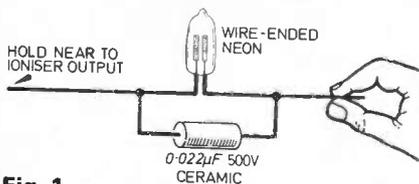

Fig. 1
With his letter he kindly enclosed the circuit of a simple apparatus which would give an indication as to whether the negative ions were flowing, see Fig. 1. This could be mounted on a small piece of wood.
Fig. 1. The circuit diagram of the marine version of the Distress Beacon. The circuit for the pocket version (see Figs. 9, 10 and 11) is identical with the exception of the battery charger section (to the left of B1 and B2) and PCC1, which are omitted.
A single transistor oscillator based around TR1, working at a frequency of 20kHz converts the 8.4V battery supply via the secondary winding (S) of T1 and voltage doubler formed by D7, D8, C9 and C10 to a peak rail voltage in the order of 350V under no load conditions (see Fig. 1).